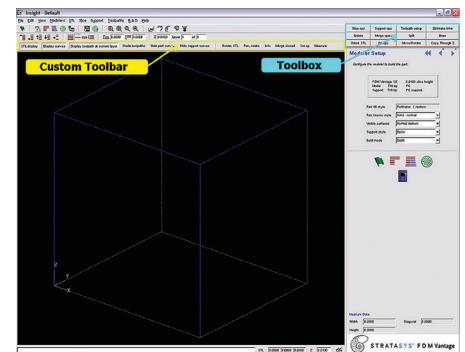

Figure 1: Main toolbar
- Step 1:** To activate these features, click on the View menu and put a check mark next to Toolbox and/or Custom Toolbar. You can use either one, or both of them at the same time. When selected, the Toolbox will appear in the top right corner of your screen, and the Custom Toolbar will appear just below the Main Toolbar. See Figure 1.